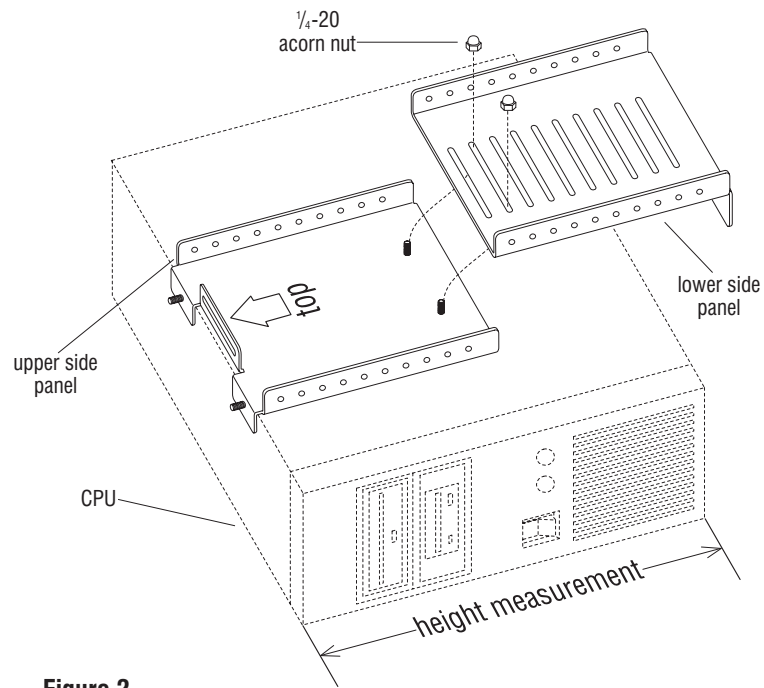

Figure 2
4. Carefully lay the CPU on its side on a soft protective surface. Lay the upper side panel onto the side of the CPU. Lay the lower side panel into the upper side panel to fit the height of the CPU as tight as possible. Tighten the side panels together with two 1/4-20 acorn nuts onto the studs. Repeat the above procedure for the other pair of side panels (Figure 2).
5. If CPU is not available, have an accurate measurement of the height of the CPU. Lay the lower side panel onto the upper side panel as illustrated. The studs on the upper side panel should go through the slots in the lower side panel at or slightly more than the measured height of the CPU. Tighten the side panels together with two 1/4-20 acorn nuts onto the studs. Repeat step five for the other pair of side panels (Figure 2).